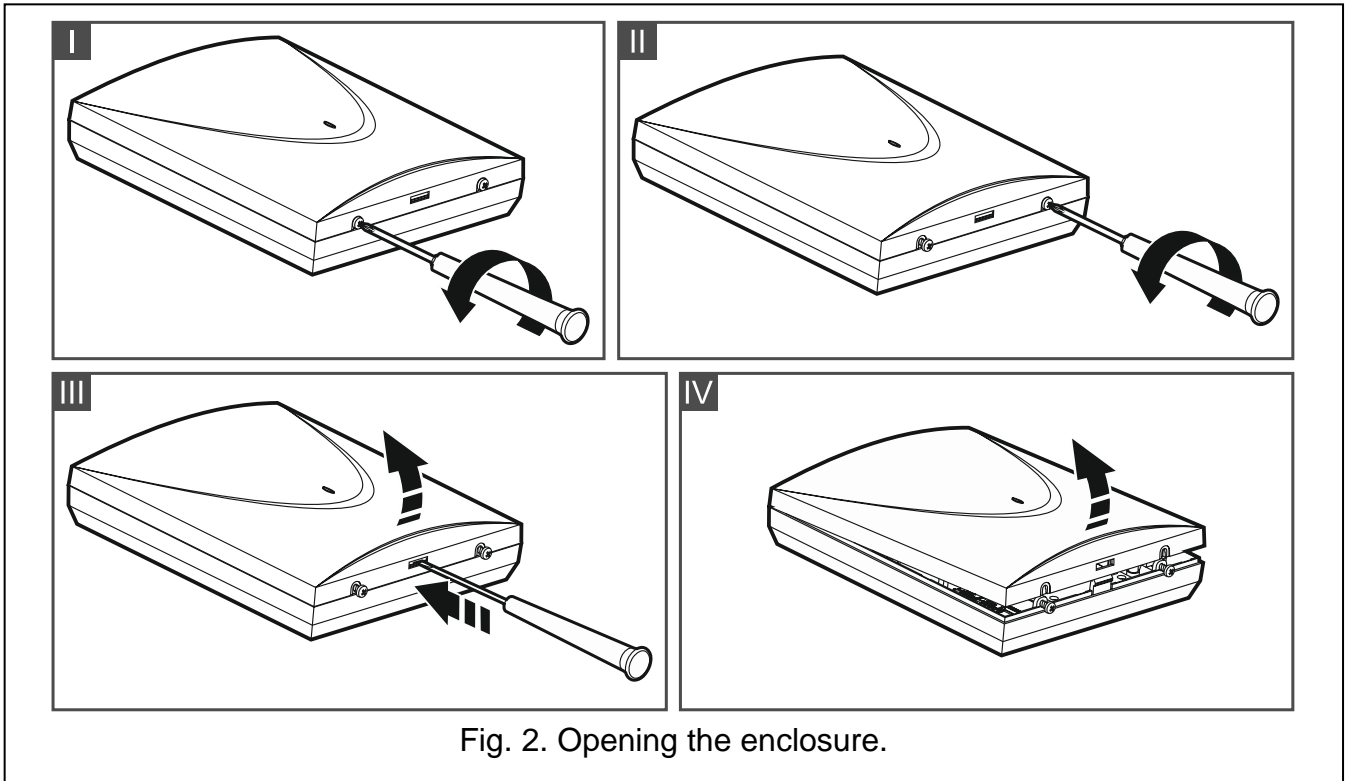

Fig. 2. Opening the enclosure.
1. Loosen the cover locking screws and remove the enclosure cover (Fig. 2).